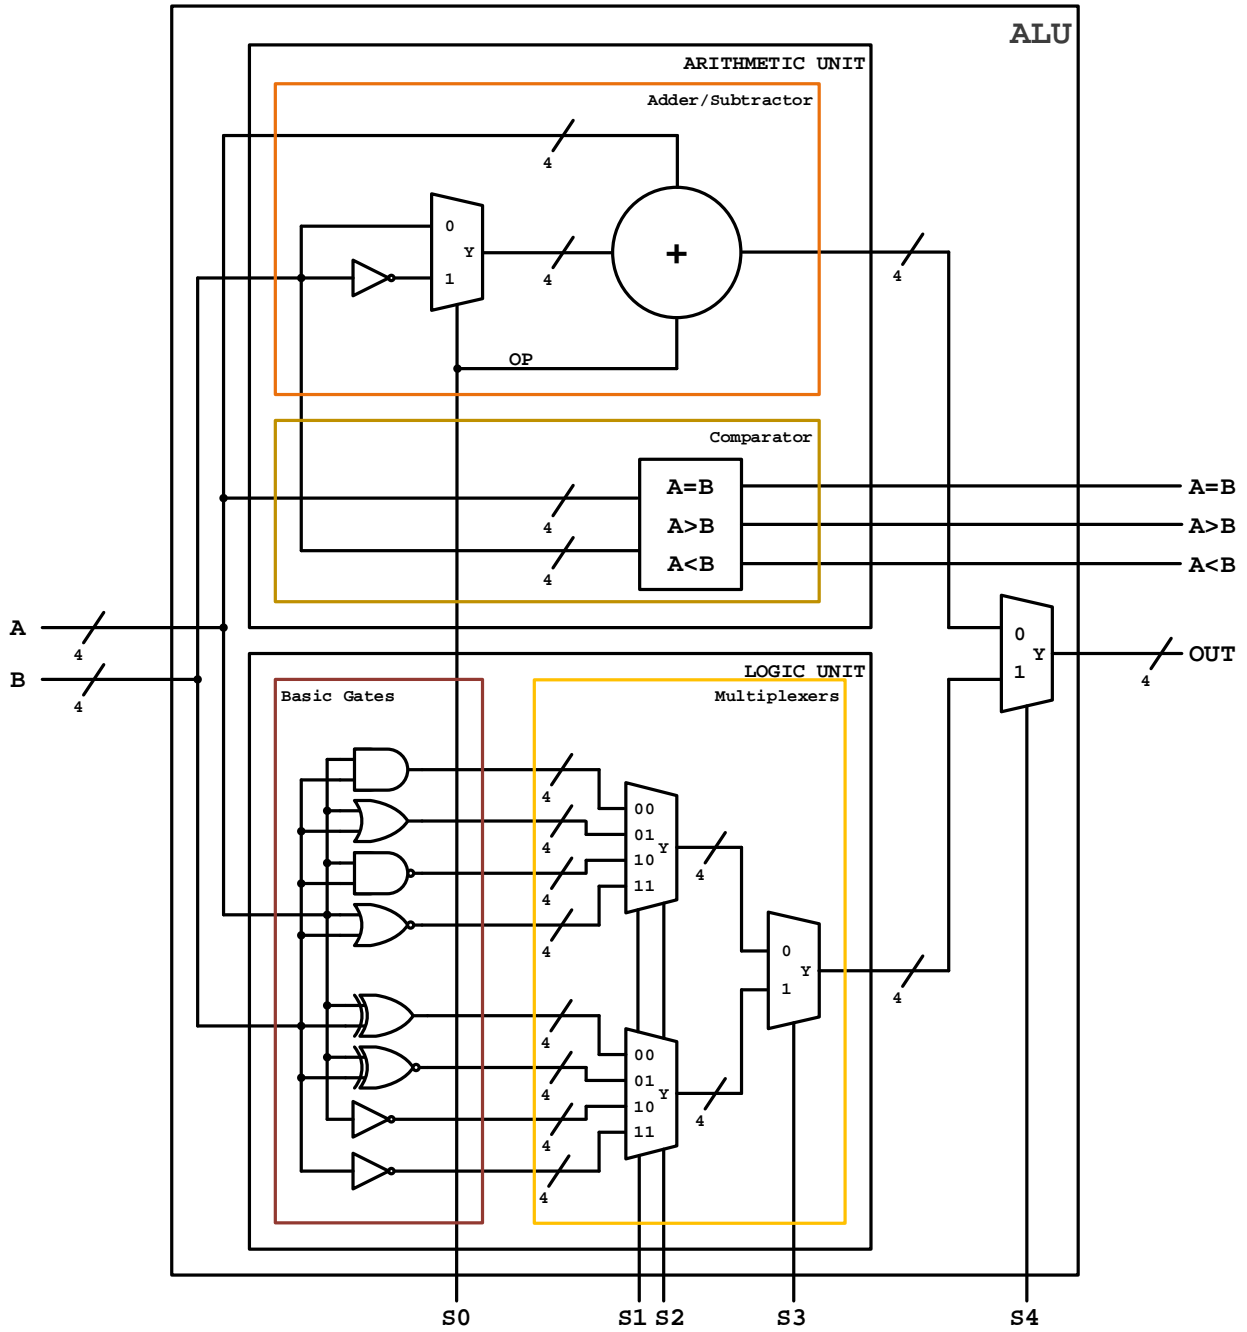

Figure 2: Complete ALU Block Diagram
Finally, all of the Verilog HDL design modules will be integrated in the top-level design to implement complete ALU design as depicted in Figure 2.
- After all components required for ALU is designed, implemented and tested. Create a top-level structural (hierarchical) Verilog HDL file called **ALU** and instantiate and connect all the components as depicted in Figure 2.